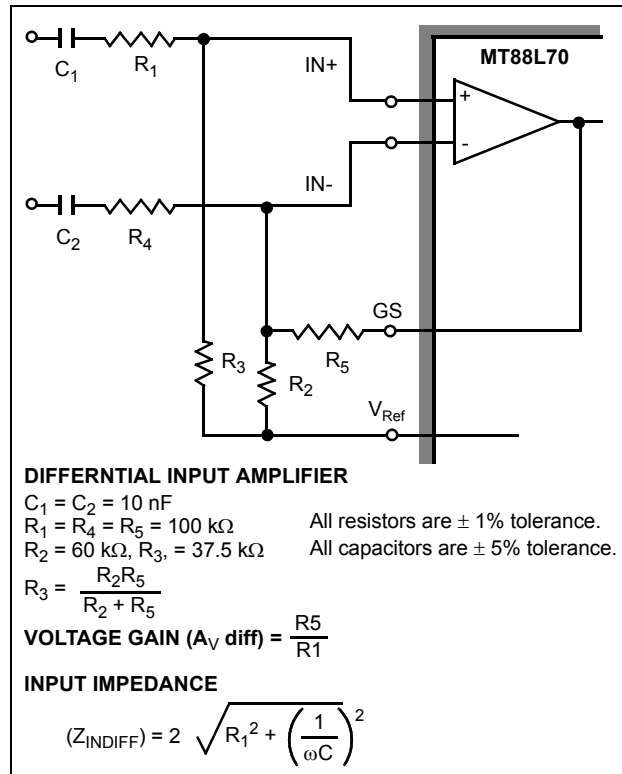
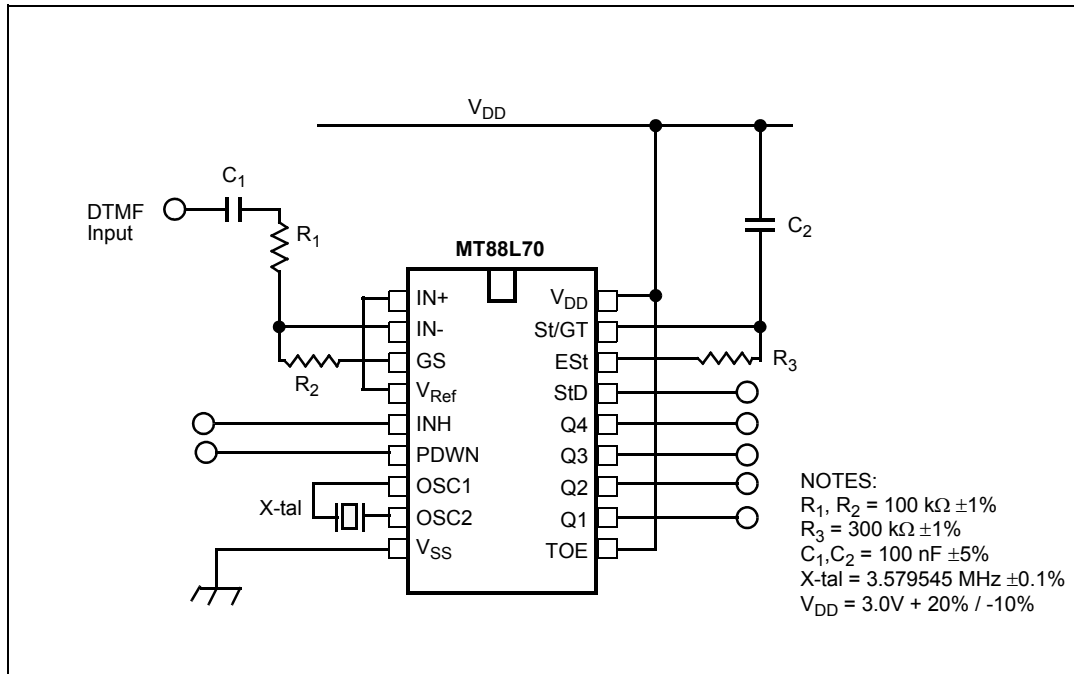

Figure 5 - Differential Input Configuration
Figure 6 - Single-Ended Input Configuration
The input arrangement of the MT88L70 provides a differential-input operational amplifier as well as a bias source (V_{Ref}) which is used to bias the inputs at mid-rail. Provision is made for connection of a feedback resistor to the op-amp output (GS) for adjustment of gain. In a single-ended configuration, the input pins are connected as shown in Figure 6 with the op-amp connected for unity gain and V_{Ref} biasing the input at $1/2V_{DD}$. Figure 5 shows the differential configuration, which permits the adjustment of gain with the feedback resistor R_5 .
The internal clock circuit is completed with the addition of an external 3.579545 MHz crystal and is connected as shown in Figure 6 (Single-ended Input Configuration).
A single-ended input configuration is shown in Figure 6. For applications with differential signal inputs the circuit shown in Figure 5 may be used.
AC Electrical Characteristics - $V_{DD} = 3.0\text{ V} \pm 20\%/-10\%$, $V_{SS} = 0\text{ V}$, $-40^{\circ}\text{C} \leq T_O \leq +85^{\circ}\text{C}$, using Test Circuit shown in Fig. 6.
AC Electrical Characteristics - $V_{DD} = 3.0\text{ V} \pm 20\%/-10\%$, $V_{SS} = 0\text{ V}$, $-40^{\circ}\text{C} \leq T_o \leq +85^{\circ}\text{C}$, using Test Circuit shown in Figure 6.